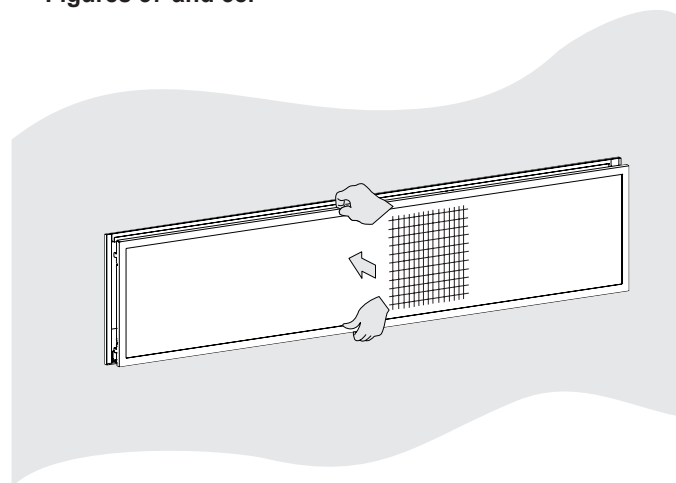

Figure 57
8. Replace the Barrier Screen onto the fireplace by lining up the tabs with the slots in the firebox. Push the barrier screen toward the unit and lower it slightly to lock in place. **See Figures 57 and 58.**